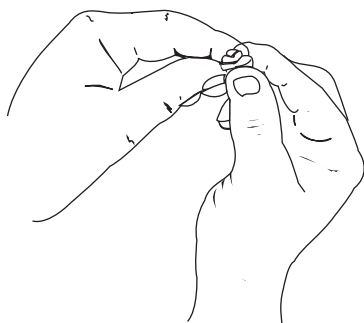

Fig. 47
5. Squeeze the filter to spread and remove excess oil (Fig. 47).